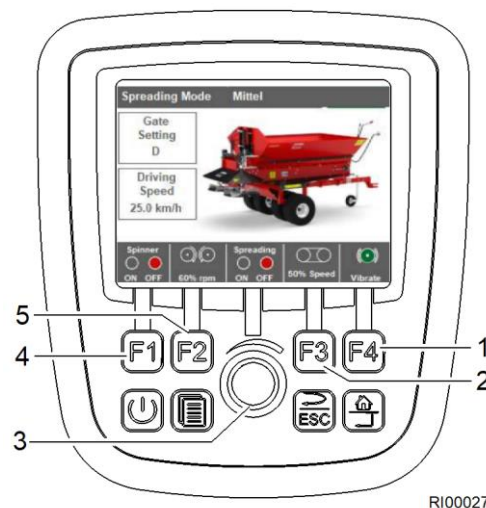

Fig. 38 Carry out spreading operation
1. Press the F1 button (Fig. 38/4). The spreader discs start to rotate (the indicator light is lit green).
2. When the F2 button (Fig. 38/5) is pressed, the disc speed can be set via the rotary control (Fig. 38/3).
4. When the F3 button (Fig. 38/2) is pressed, the transport speed can be set via the rotary control.
5. Option: When the F4 button (Fig. 38/1) is pressed, the vibration motors start vibrating. The vibration motors remain running for 10 seconds and are then automatically switched off.